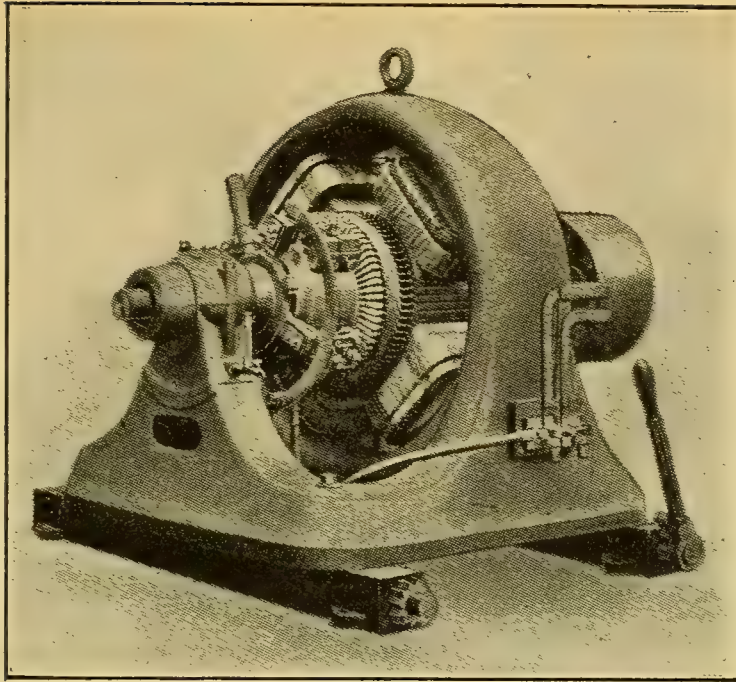

FIGURE 368. — ELECTRIC MOTOR.
235. Electric Motor. — Any one examining an electric motor is immediately struck with the fact that it is largely composed of insulated wire, wound on various pieces of iron, in other words, that it consists largely of electromagnets. These electromagnets consist: (1) of the *field magnets*, whose windings are placed on *pole pieces* projecting from the stationary outer frame of the motor; (2) of the *armature*, an iron core mounted to rotate within the pole pieces and having windings running lengthwise on it (Figure 368). As